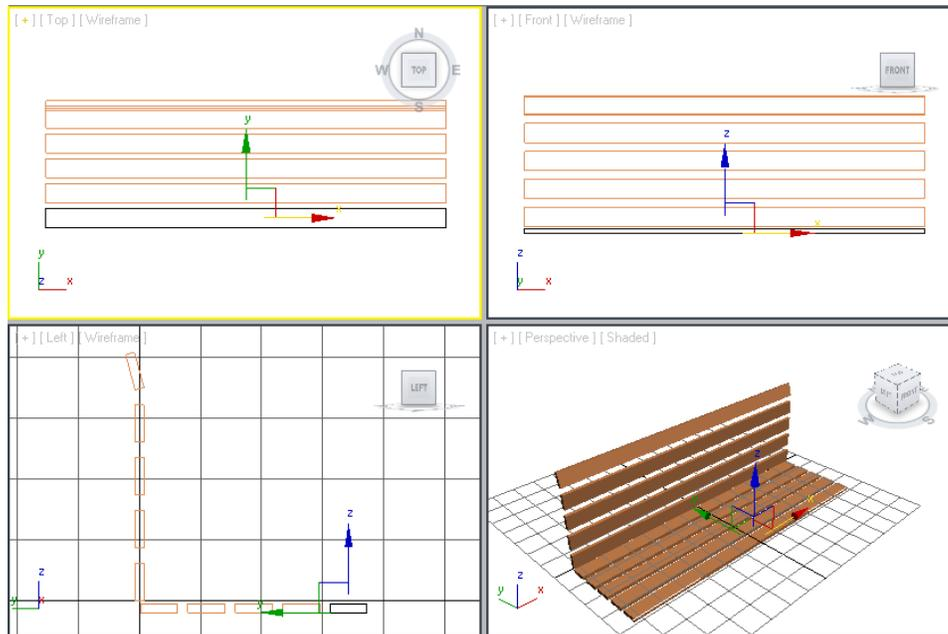

Figure 2-64 Horizontal seat supports displayed in all viewports
9. Choose the **Zoom Extents All** tool; all objects are displayed in all viewports, as shown in Figure 2-64.